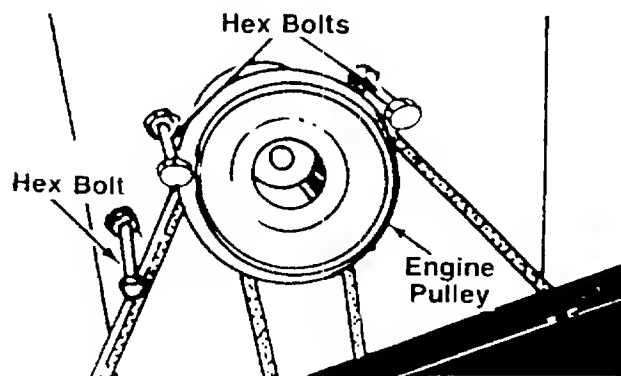

FIGURE 20.
NOTE: Figures 20 and 24 through 26 are shown with the unit tipped up for clarity. It is not necessary to tip the unit to remove the belts.
2. Remove the hex bolts (belt keepers) from the engine pulley belt guard. See figure 20.
NOTE: When reassembling, make certain hex bolts are assembled in the same locations from which they were removed. See figure 20.
3. Remove the three hex bolts (belt keepers) from the engine pulley belt guard. Refer to figure 20.